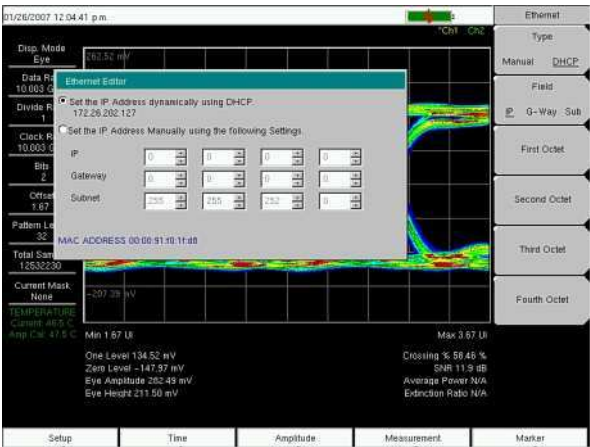

Figure 2-5. IP Address Assigned by Using DHCP
To display the IP address with the instrument on, press the **Shift** key, then the **System** (8) key, then the System Options soft key and the Ethernet Config soft key. The IP address is displayed as shown in Figure 2-5. For more information about DHCP, refer to Appendix B, “More About DHCP”.